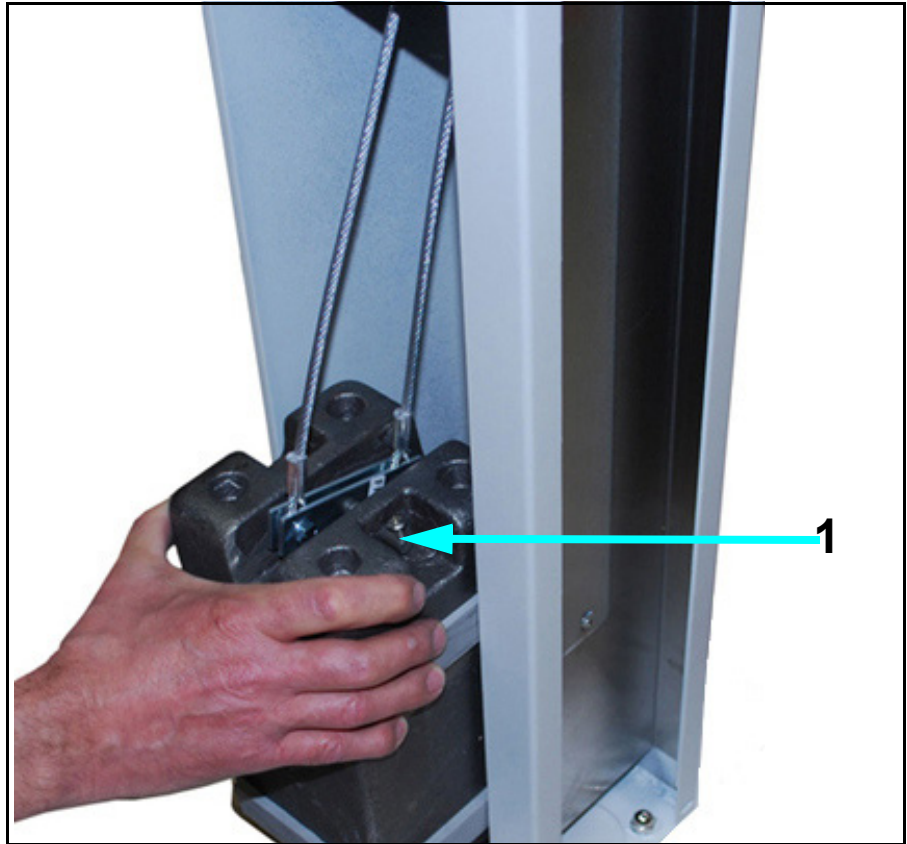

Figure 2-9. Counterweight Rod Removal
- 9 Pull the counterweight bracket (1 in Figure 2-9). Slide the Clevis Pin through the counter weight and bracket.